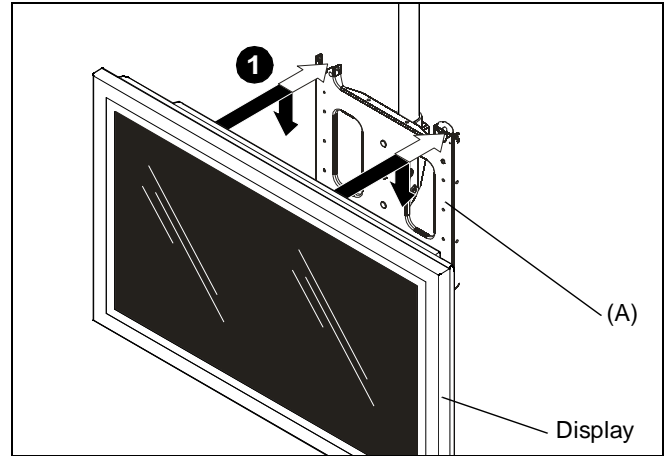

Figure 2
1. While supporting both sides of display, align four mounting buttons on display or interface bracket with four mounting holes in mount. (See Figure 2)